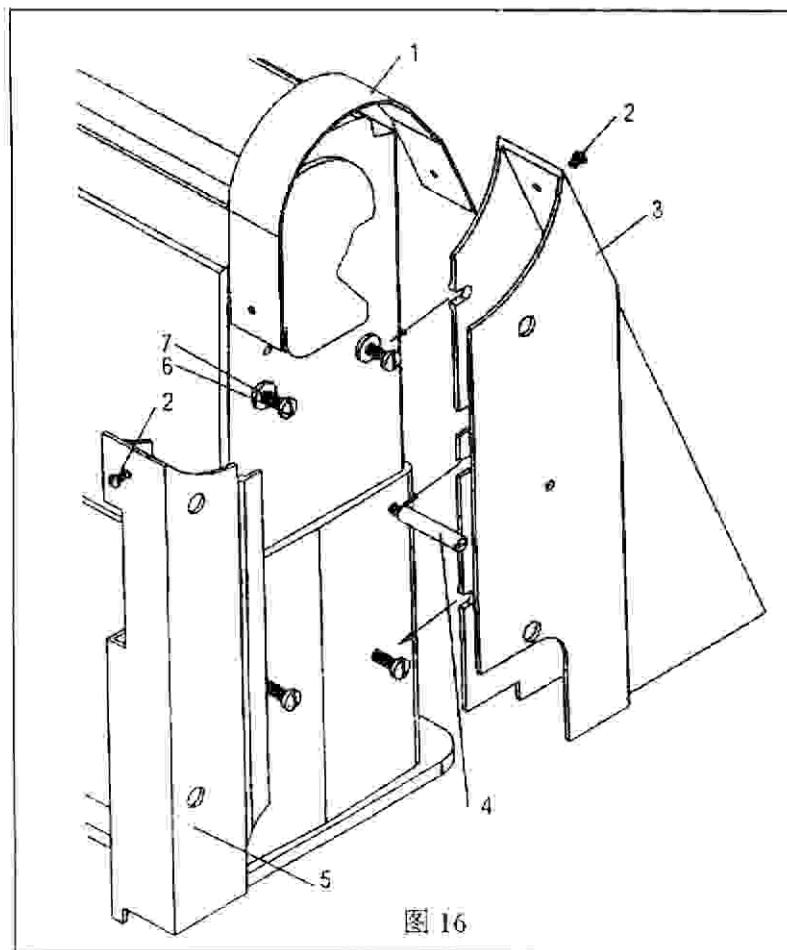

图 16
15、皮带罩安装 (图 16):
15. Installation of Belt cover (Fig.16):